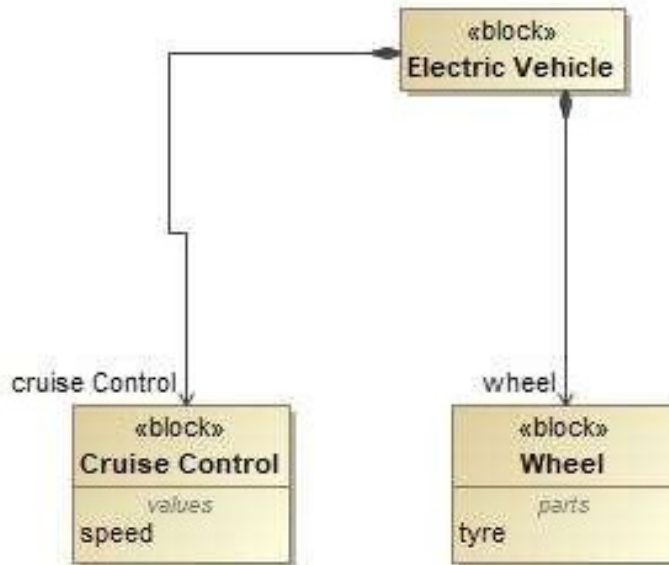

Fig 11: Package Diagram
Step 1: Open Cameo System Modeler then create the package diagram in it. As shown in Fig 11.
Fig 11 shows the package diagram created in Cameo System Modeler. Speed is the attribute of Cruise Control block & type is the attribute of Wheel block.